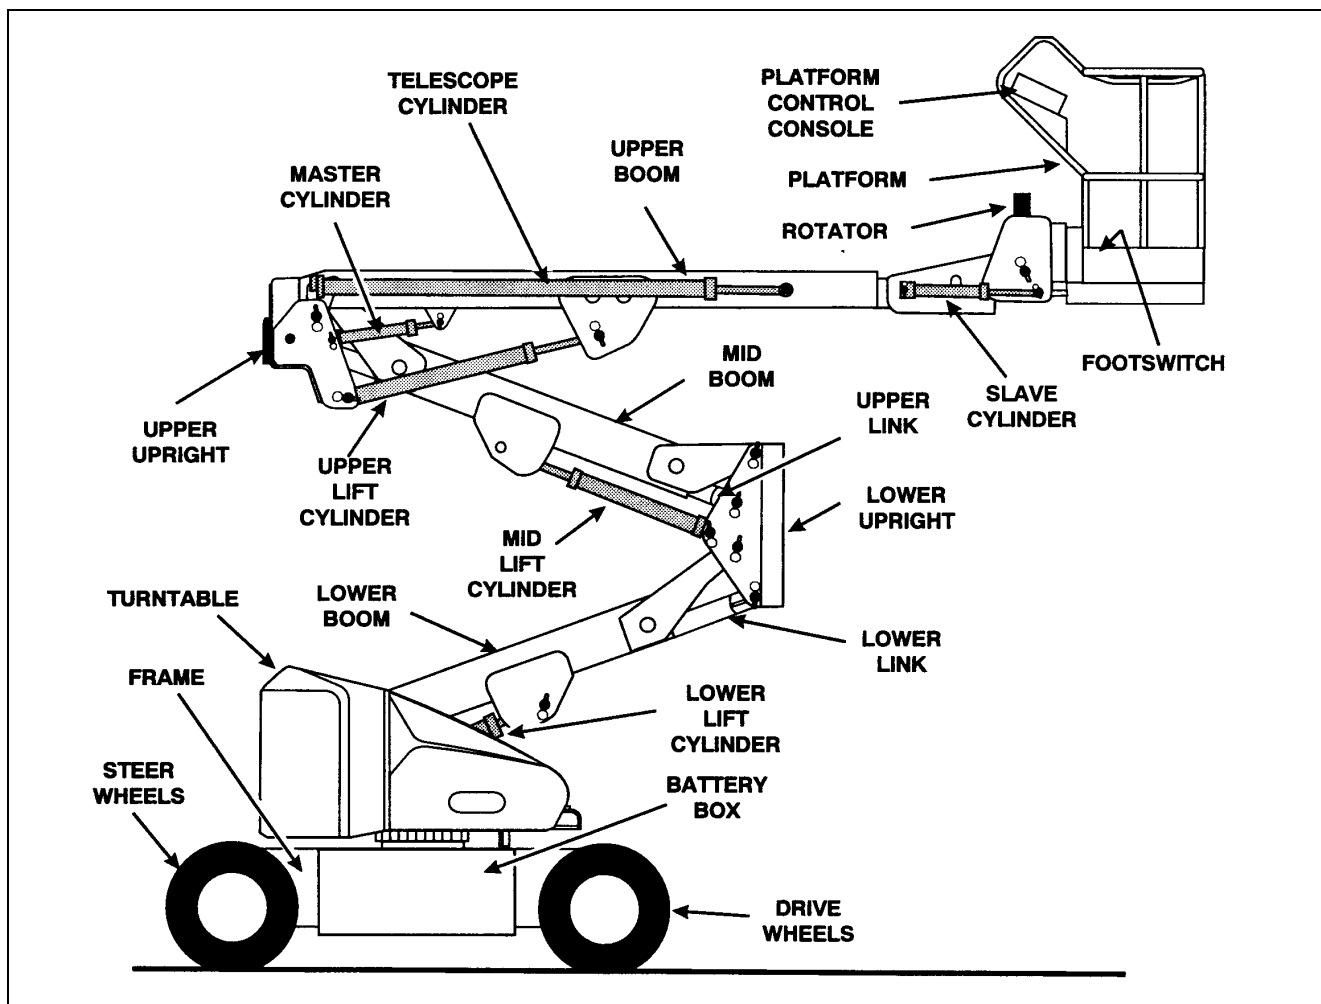

Figure 2-2. Boom Nomenclature. (40/n45/45electric)
**NOTE:** *The following, (10) thru (12) apply only to the 35 and n35 electric.*
**40/n40/45 electric - Boom. (See Figure 2-2)**